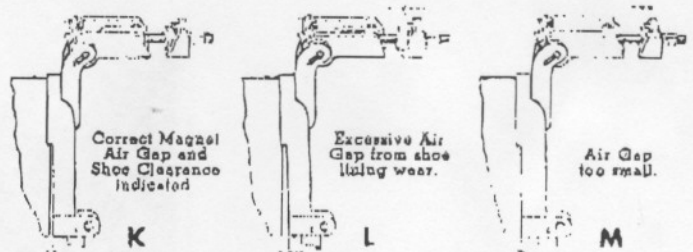
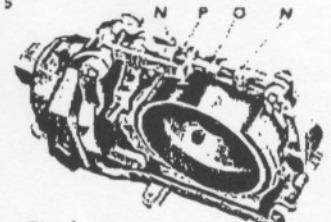

Fig. 5
Fig. 6
Adjustment for lining wear is required when the maximum allowable air gap is exceeded. This will be indicated by the amount of mis-match between the gauge surfaces of the lining wear indicator (see Fig. 5). Adjust for lining wear as follows:
Loosen the two Bar Eye Clamp Bolts (N in Fig. 6) and turn Adjusting Bar (O) until bar collar is aligned with Gauge Pin (P) per Fig. 5, Diagram K. This will restore magnet air gap to normal amount provided shoes have equalized clearance (see instructions on Page 6). No further adjustments are required. Retighten clamp bolts (N).